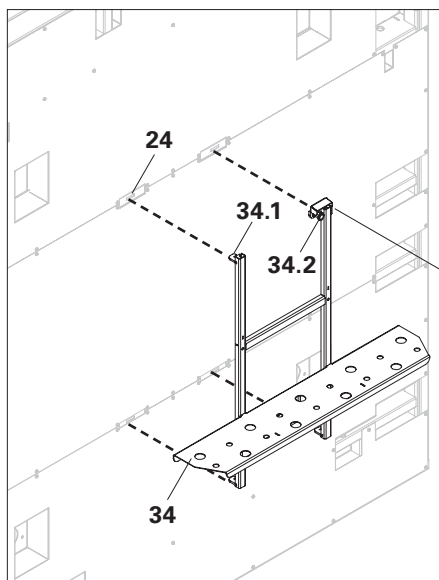

Fig. B6.04
1. Insert 4 hooks (34.1) of the tie holder (34) into the mounting slots (24) of the Heated Panel. (Fig. B6.04 + B6.05)